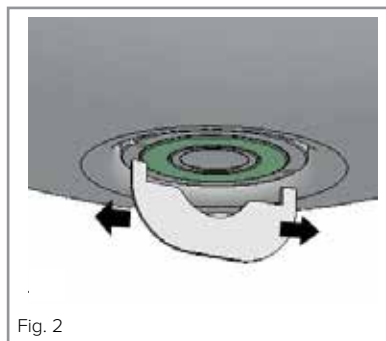

Fig. 2
- While supporting the weight of the lower half of the globe, use the special tool supplied with the appliance to unscrew the metal ring that secures it (Fig. 2).